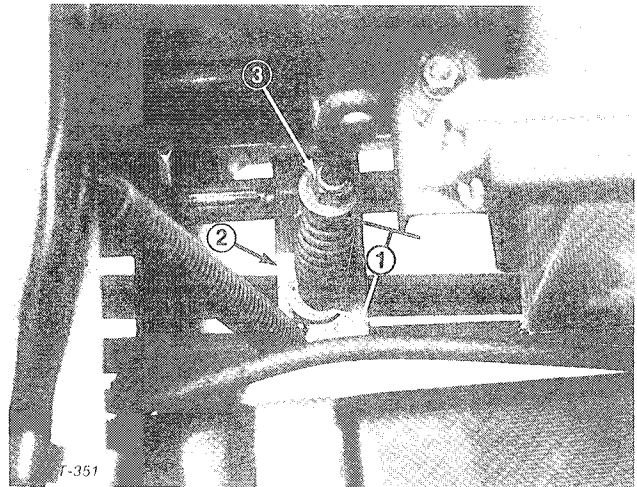

Figure 53
- 3. Measure length of PTO spring between flat-washers (Fig. 53). There should be a spring length of 3-3/16 inches (81 mm).
- 4. To adjust, hold head of adjusting screw with wrench (under PTO actuating arm) and turn locknut (Fig. 53).